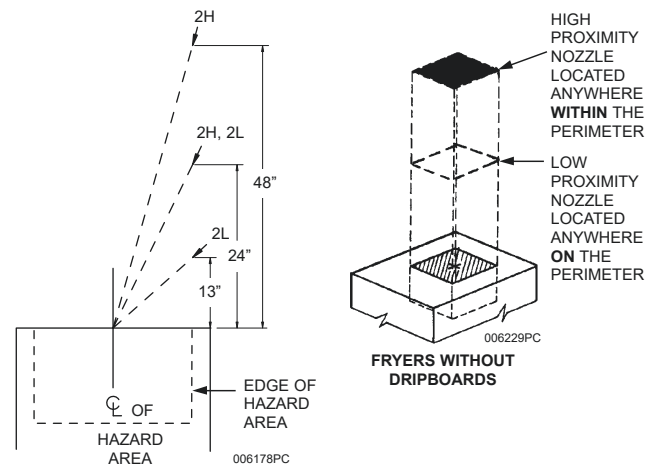

Figure 3-3a
The Model 2H nozzle, Part No. 551028, is used for high proximity fryer protection. This nozzle is a two (2) flow nozzle. The nozzle must be located **anywhere within the perimeter** of the hazard area, 24 in. to 48 in. above the cooking surface of the appliance and aimed at the center of the cooking area. See **Figure 3-3a**.
The Model 2L nozzle is used for low proximity fryer protection. This nozzle is a two (2) flow nozzle. The nozzle must be located **anywhere on the perimeter** of the hazard area, 13 in. to 24 in. above the cooking surface of the appliance and aimed at the center of the cooking area. See **Figure 3-3a**.